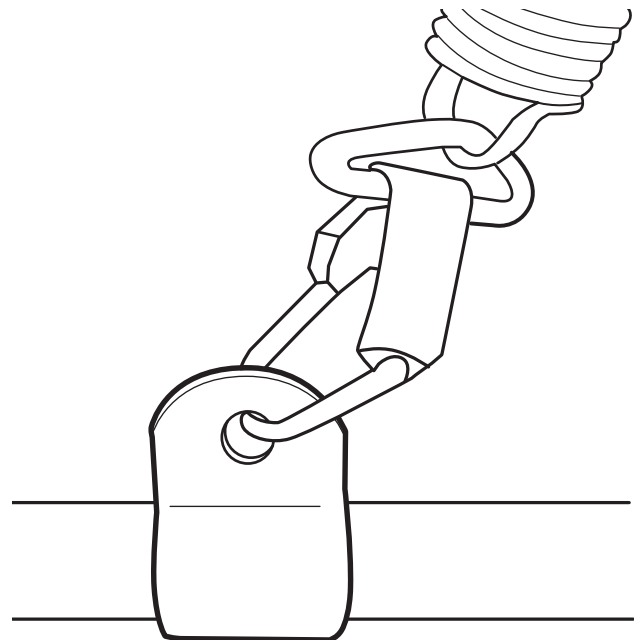

Fig. 32
2. Lock the harness on the sleeve (Fig. 32).